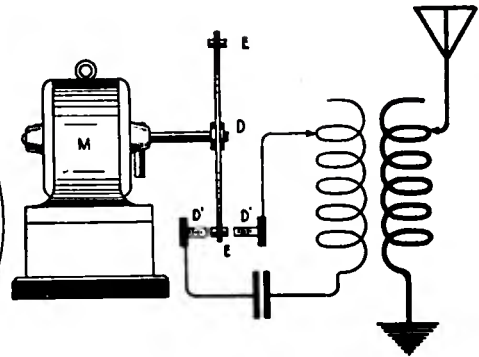

Figure 95
- (2) Figure 95. To show the construction and the circuit of the non-synchronous rotary spark gap.
In figure 95, the non-synchronous disc discharger comprises the disc D mounted on the shaft of motor M; on the outer circumference of D are mounted the spark electrodes E, E from 8 to 30 in number depending upon the speed of the motor and the rate of sparking desired. Two stationary electrodes D, D permit the condenser in the closed oscillation circuit to discharge whenever electrode E comes directly opposite. The motor M may be driven by alternating or direct current and means must be provided whereby its speed can be closely regulated.
The non-synchronous discharger of figure 95 is adjusted for clear spark tones, first, by regulation of the speed of the disc through a series resistance or a motor field rheostat, and second, by adjustment of the alternating current voltage.